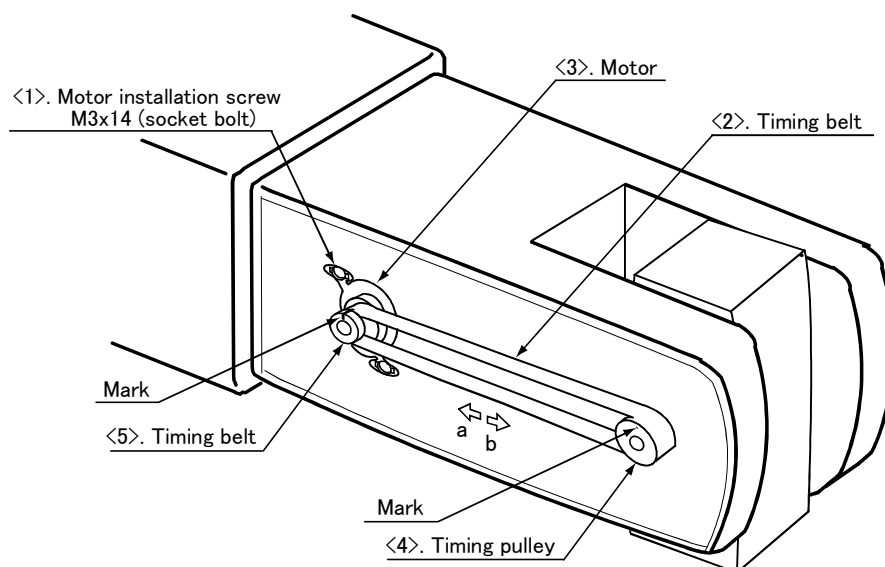

Fig.5-6 : Inspection, adjustment and replacement of J5 axis timing belt
- 1) The inspection and adjustment methods of the J5 axis timing belt are shown in Fig. 5-6.
- 1) The timing belt replacement method is shown in Fig. 5-6.
- 5) Make a mark with a felt-tip marker on timing belt <2> and timing pulleys <4> and <5> as shown in Fig. 5-6 so that the engagement of the timing belt <2> and timing pulleys <4> and <5> teeth does not deviate.
- 9) Refer to steps (3) to (6) in the adjustment method and the section on the "(3)Timing belt tension" to adjust the tension.